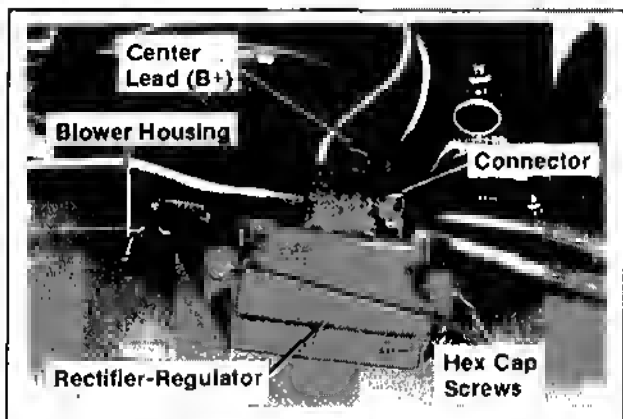

Figure 11-45. Install Rectifier-Regulator.
3. Install the rectifier-regulator and hex. cap screws. Install the lead to center position of connector. Install the connector to rectifier-regulator. Refer to Figure 11-45.